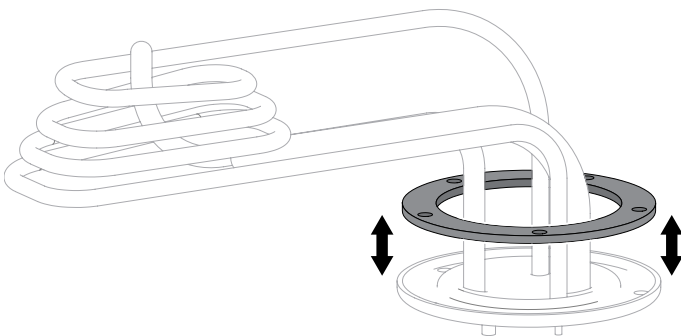

Figure 29: Immersion heater gasket removal
- ▶ Remove and discard the immersion plate seal, then fit a new replacement part see figure 29. For part number see spares list page 30, spares number 29.